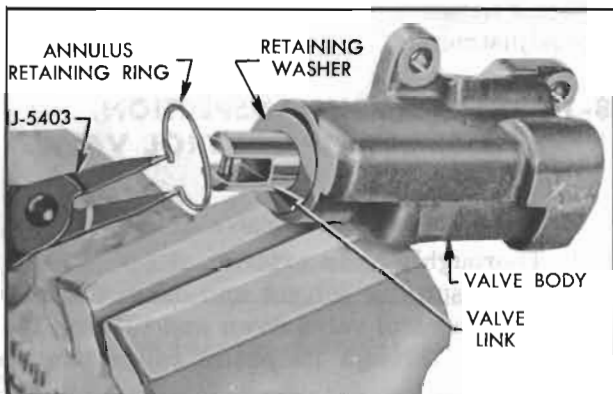

Figure 8-19—Removing Annulus Retaining Snap Ring
1. Remove annulus retaining snap ring using No. 1 Truarc Ring Pliers J 5403 and annulus retaining washer. Then slide spool assembly out of the valve body. Care should be taken to see that neither the spool assembly or the valve body are scratched or dropped. See Figure 8-19.